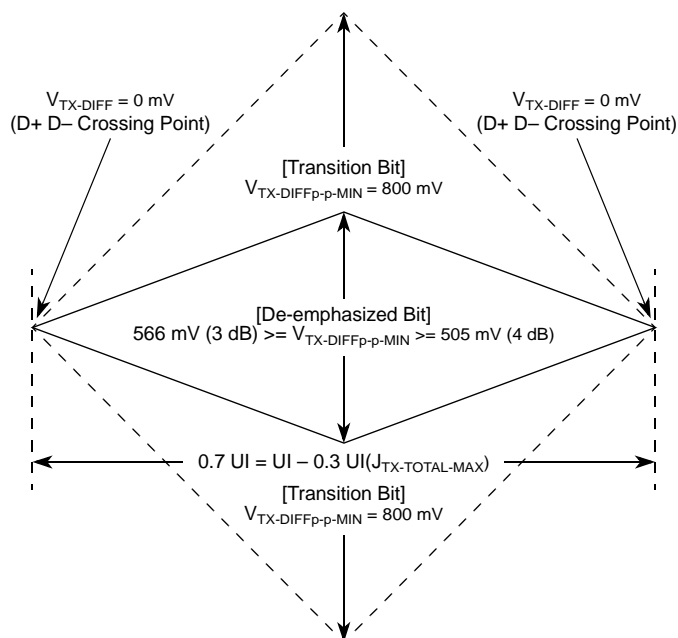
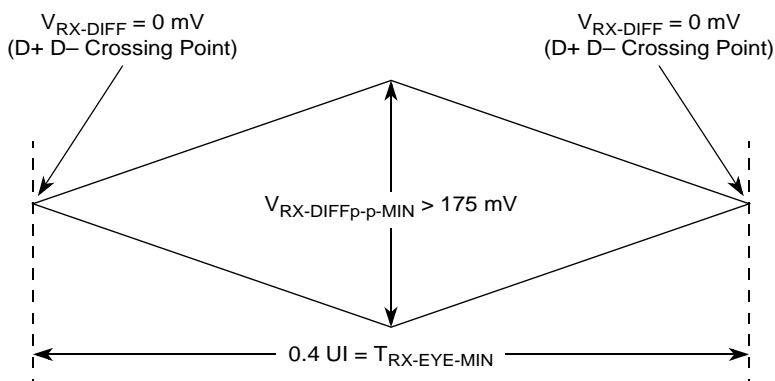
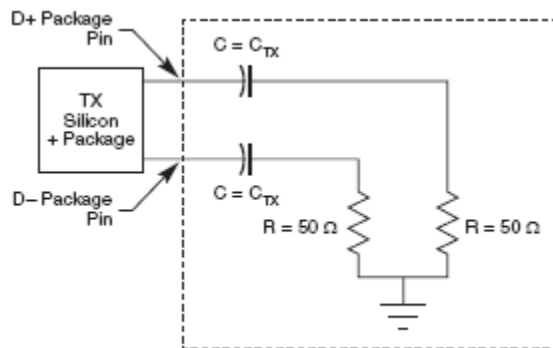

Figure 27. Minimum Transmitter Timing and Voltage Output Compliance Specifications
Figure 28. Minimum Receiver Eye Timing and Voltage Compliance Specification
Figure 29. Compliance Test/Measurement Load
2. Specified at the measurement point into a timing and voltage compliance test load as shown in Figure 29 and measured over any 250 consecutive TX UIs. (Also refer to the transmitter compliance eye diagram shown in Figure 27.)
4. The transmitter input impedance shall result in a differential return loss greater than or equal to 12 dB and a common mode return loss greater than or equal to 6 dB over a frequency range of 50 MHz to 1.25 GHz. This input impedance requirement applies to all valid input levels. The reference impedance for return loss measurements is 50 Ω to ground for both the D+ and D– line (that is, as measured by a vector network analyzer with 50- Ω probes, see Figure 29). Note that the series capacitors, C_{TX} , is optional for the return loss measurement.
5. Measured between 20%–80% at transmitter package pins into a test load as shown in Figure 29 for both $V_{\text{TX-D+}}$ and $V_{\text{TX-D-}}$.
The TX eye diagram in Figure 27 is specified using the passive compliance/test measurement load (Figure 29) in place of any real PCI Express interconnect + RX component. There are two eye diagrams that must be met for the transmitter. Both diagrams must be aligned in time using the jitter median to locate the center of the eye diagram. The different eye diagrams differ in voltage depending on whether it is a transition bit or a de-emphasized bit. The exact reduced voltage level of the de-emphasized bit is always relative to the transition bit.
2. Specified at the measurement point and measured over any 250 consecutive UIs. The test load in Figure 29 should be used as the RX device when taking measurements (also refer to the receiver compliance eye diagram shown in Figure 28). If the clocks to the RX and TX are not derived from the same reference clock, the TX UI recovered from 3500 consecutive UI must be used as a reference for the eye diagram.
4. The receiver input impedance shall result in a differential return loss greater than or equal to 15 dB with the D+ line biased to 300 mV and the D– line biased to –300 mV and a common mode return loss greater than or equal to 6 dB (no bias required) over a frequency range of 50 MHz to 1.25 GHz. This input impedance requirement applies to all valid input levels. The reference impedance for return loss measurements for is 50 Ω to ground for both the D+ and D– line (that is, as measured by a vector network analyzer with 50- Ω probes, see Figure 29). Note that the series capacitors, C_{TX} , is optional for the return loss measurement.
The RX eye diagram in Figure 28 is specified using the passive compliance/test measurement load (Figure 29) in place of any real PCI Express RX component. In general, the minimum receiver eye diagram measured with the compliance/test measurement load (Figure 29) is larger than the minimum receiver eye diagram measured over a range of systems at the input receiver of any real PCI Express component. The degraded eye diagram at the input Receiver is due to traces internal to the package as well as silicon parasitic characteristics which cause the real PCI Express component to vary in impedance from the compliance/test measurement load. The input receiver eye diagram is implementation specific and is not specified. RX component designer should provide additional margin to adequately compensate for the degraded minimum Receiver eye diagram (shown in Figure 28) expected at the input receiver based on an adequate combination of system simulations and the return loss measured looking into the RX package
The reference impedance for return loss measurements is $50\ \Omega$ to ground for both the D+ and D- line (that is, as measured by a Vector Network Analyzer with $50\ \Omega$ probes—see Figure 29). Note that the series capacitors, $C_{PEACCTX}$, are optional for the return loss measurement.
The AC timing and voltage parameters must be verified at the measurement point, as specified within 0.2 inches of the package pins, into a test/measurement load shown in Figure 29.